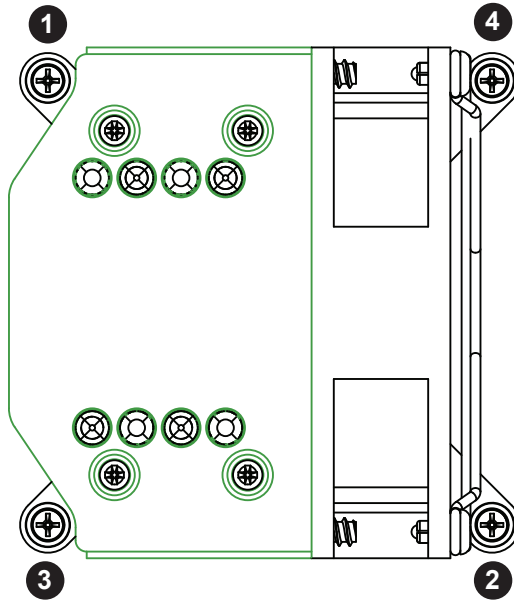

Figure 3-7. Tightening the Heatsink Screws (Top View)
1. Loosen the heatsink screws in the order shown in Figure 3-7.